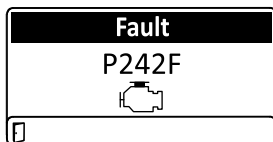

Figura 49
- Engine warning (Avertisment motor) (Figura 49)